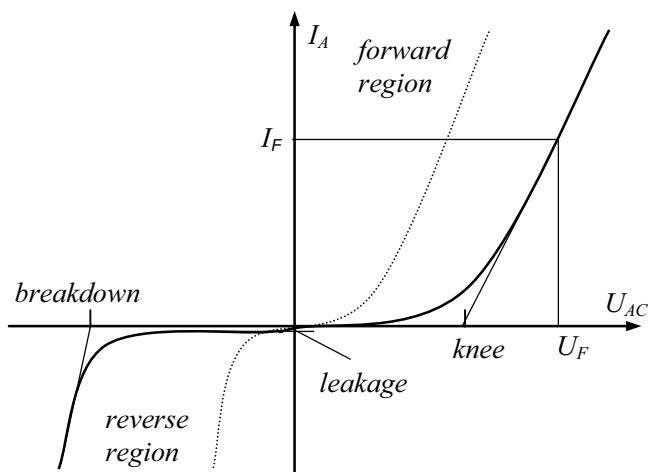

Fig. 1.7
**Output characteristic.** A diode is a nonlinear device meaning that its output current is not proportional to the voltage. Because of the barrier potential, a plot of current versus voltage for a diode produces a nonlinear trace. Fig. 1.7 illustrates the graph of diode current versus voltage named an *output characteristic* or a *volt-ampere characteristic*. Here, the current is small for the first few tenths of a volt. After approaching some voltage, free electrons start crossing the junction in large numbers. Above this voltage border, the slightest increase in diode voltage produces a large growth in current. A small rise in the diode voltage causes a large increase in the diode current because all that impedes the current is the bulk resistance of the *p* and *n* regions. Typically, the bulk resistance is less than  $1\ \Omega$  depending upon the doping level and the size of the *p* and *n* regions. The point on a graph where the forward current suddenly increases is called the *knee voltage*. It is approximately equal to the barrier potential of the dipole. A silicon diode has a knee voltage of about 0,7 V. In a germanium diode it is about 0,3 V.
When an ambient temperature rises, the power rises also therefore the output characteristic is distorted, as shown in Fig. 1.7 by the dotted line. Fig. 1.8 shows the simple forward biased diode circuit. A current-limiting resistor  $\mathbf{R}$  has to keep the diode current lower than the maximum rating. The diode current is given by:  $I_A = (U_S - U_{AC}) / R$ , where  $U_S$  is the source voltage and  $U_{AC}$  is the voltage drop across the diode.